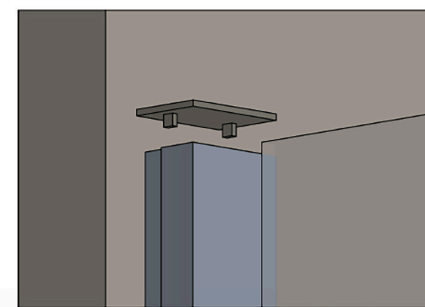

FIGURE 26E
Turn the Adjustable Post Cap (N) around and install with the legs going into the Wall Jamb (A). (See Figure 26E)